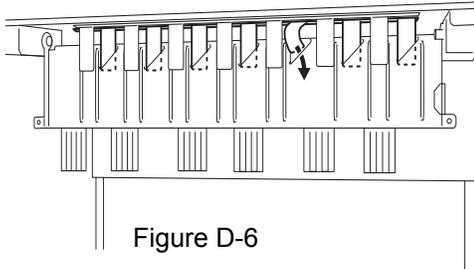

Figure D-6
9. Insert the guide film of the swing guide assembly (inner side) into the hole.(See Figure D-6)